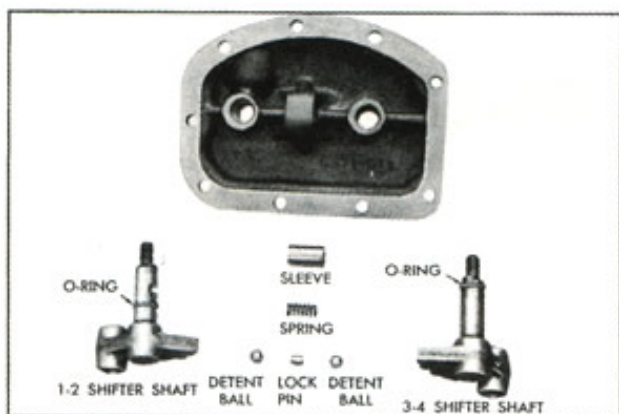

Fig. 15—Shift (Side) Cover Assembly
4. Replace necessary parts (Fig. 15) and assemble by Reversing steps 1-3.